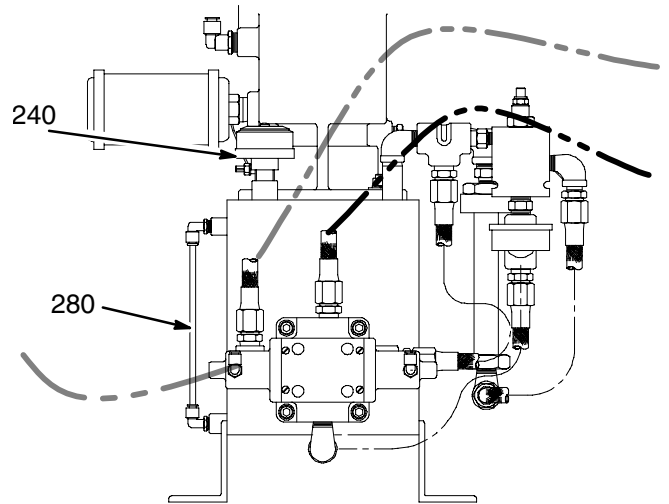

Fig. 26
4. Continue raising the ram while watching the level in the fluid level gauge (Fig. 26).